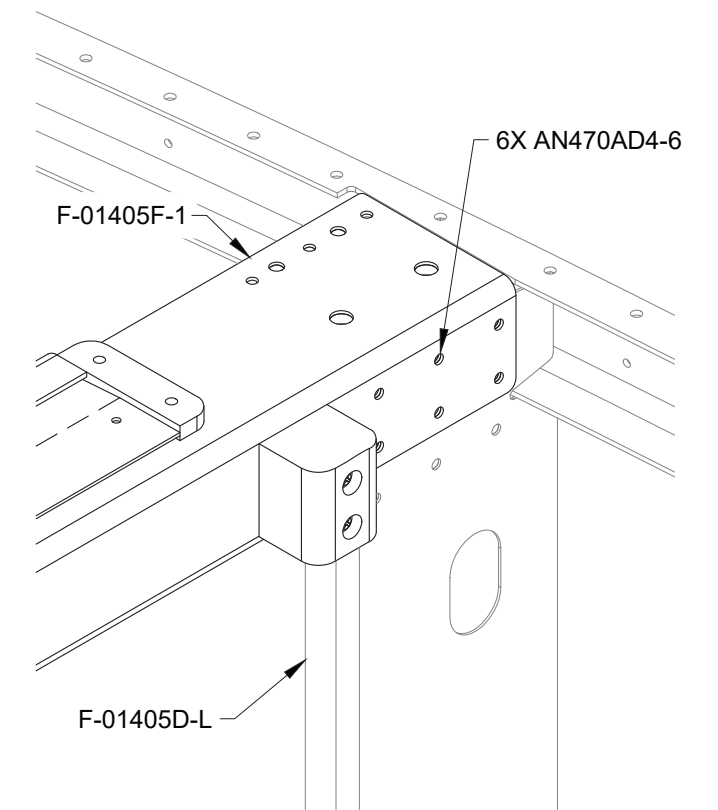

FIGURE 3: BRACE INSTALLATION
Step 6: Cleco and rivet the F-01405F-1 Brace to the F-01405D-L & -R Bulkhead Side Channels as shown in Figure 3.